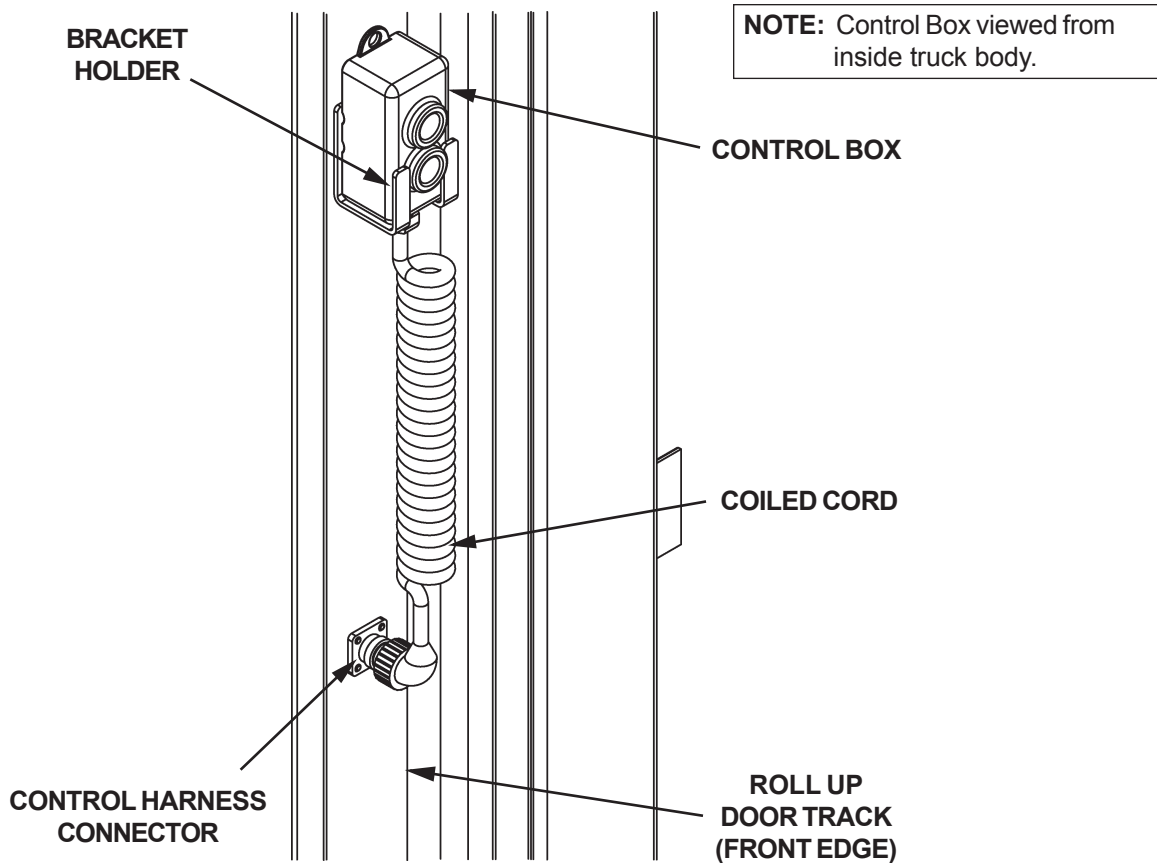

FIG. 7
7. Place Control Box in Bracket Holder (**FIG. 7**). Connect Coiled Cord to Control Harness Connector.